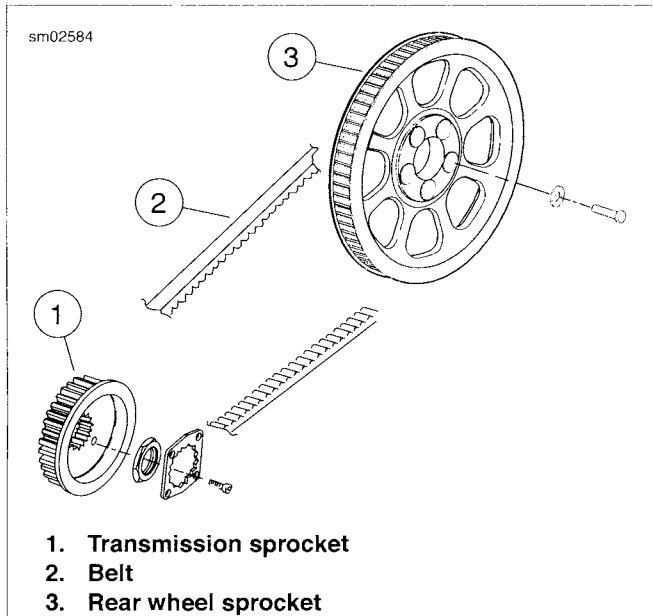

Figure 5-44. Belt and Transmission Sprocket
5. See Figure 5-44. Slip drive belt (2) from transmission sprocket (1).
1. See Figure 5-44. Install belt (2) over transmission sprocket (1).